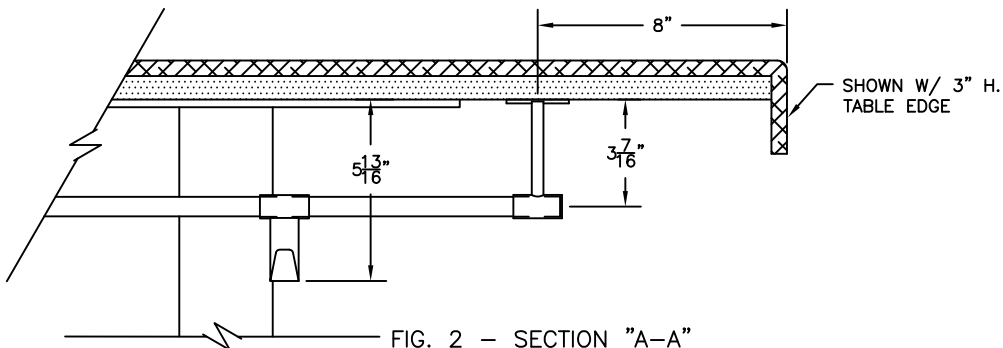
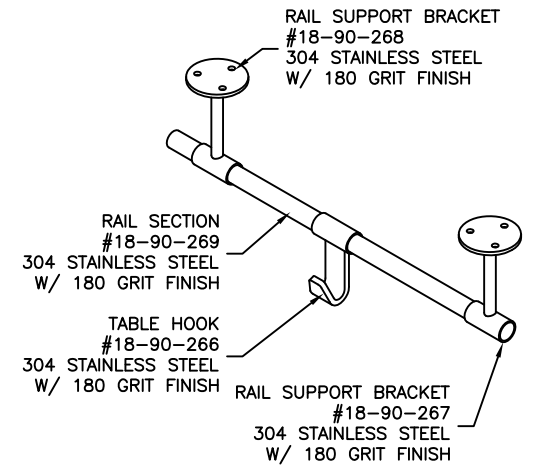

FIG. 2 - SECTION "A-A"
FIG. 1 - ASSEMBLY ISOMETRIC
- 4.) FROM THE OTHER END OF THE TUBING, SLIDE THE REMAINING COMPONENTS ONTO THE TUBE PER FIG. 1 AND FIG. 2, BEGINNING WITH A RAIL SUPPORT BRACKET. ALTERNATE HOOKS AND SUPPORT BRACKETS UNTIL THE REQUIRED AMOUNT ARE SLID ONTO THE TUBING, ENSURING THAT THE HOOKS WILL FACE AWAY FROM EACH SEAT ALONG THE TABLE SIDE..
- 11.) REMOVE THE TAPE ON THE END CAP(S) AND SECURE THEM TO THE TUBING BY INSTALLING A #10 X 3/8" LONG SHEET METAL SCREW THROUGH THE END CAP. WILL NEED TO DRILL A PILOT HOLE PRIOR TO INSTALLING THE SCREW.